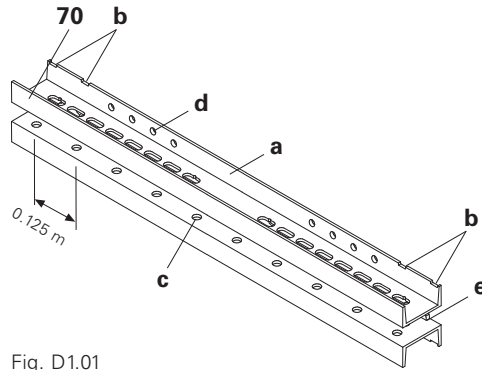

Fig. D1.01
- reinforced spacer only at the front (e) (Fig. D1.01)